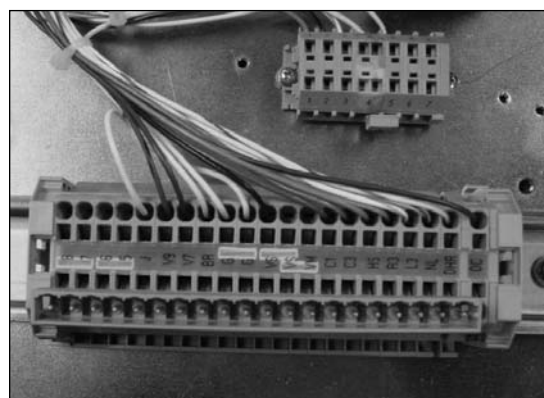

Figure 6.
8. If the terminal boards on the back panel are not an open face screw terminal board, but are a dead front terminal connection, Item 3 pre-insulated terminals are not required (See Figure 6).